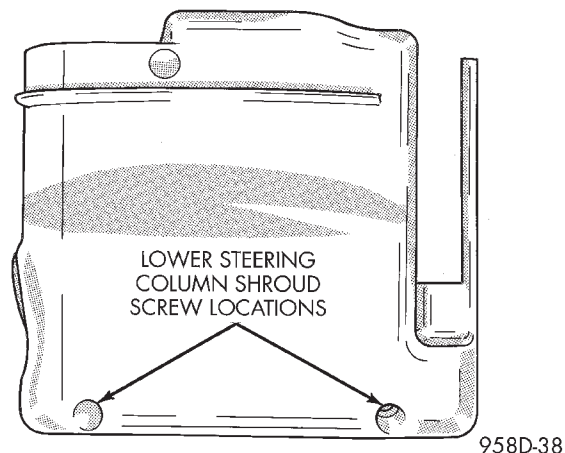

Fig. 14 Lower Steering Column Shroud Screw Locations
(11) Remove lower knee bolster screws and knee bolster.
(12) Remove screws from lower steering column shroud (Fig. 14).